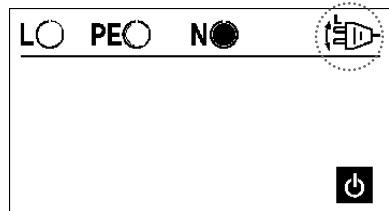

Figure 5.4.5 Display for phase position N to L/L1 and L to N/L2
- If the test instrument shows the pin assignment in compliance with Figure 5.4.5, i.e. the 'turn mains plug' symbol (5) is flashing, the test cannot be started. When starting the test, an acoustic signal is audible. The shockproof plug must be turned or L and N have to be exchanged for the test leads connected.
- To carry out the socket test touch the contact electrode 'PE' (21).
☞ If the test instrument shows the pin assignment in compliance with Figure 5.4.5, i.e. the 'turn mains plug' symbol (5) is flashing; the test cannot be started. When starting the test, an acoustic signal is audible. The shockproof plug must be turned or L and N have to be exchanged for the test leads connected.
► To carry out the socket test touch the contact electrode 'PE' (21).